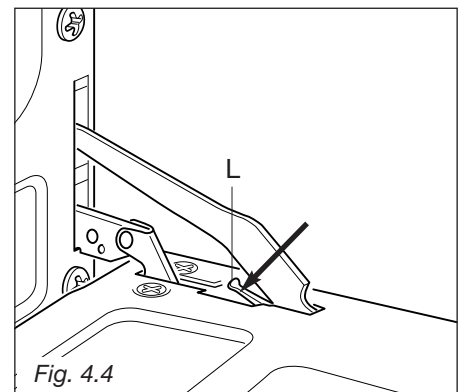

Fig. 4.4
- Push down the lever "L" and, keeping it in this position, slowly close the door in order to block the hinge (fig. 4.4).